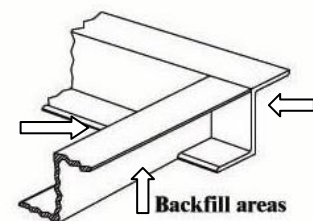

Figure 3: Concrete Fill
STEP 4: (Figure 3) Back fill around the perimeter of the frame with 3000PSI concrete. Trowel the concrete level with the scale frame and existing floor. Trowel the base of the pit level with the base of the frame with a gradient toward the centered drain, if used. Conduit and cable should be left free so cable can be easily connected to the platform base.